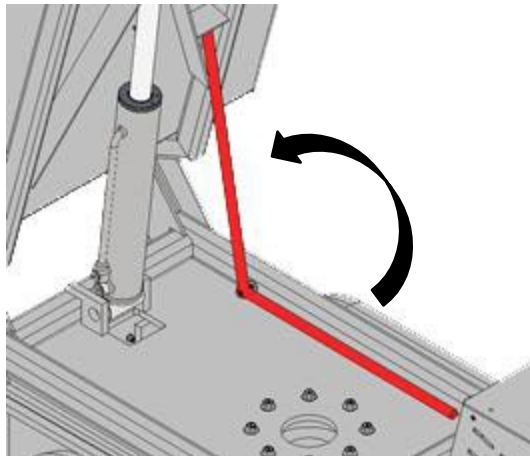

Fig 1 – Bucket Safety Bar
2. Rotate the safety bar into place. (*Fig 1*)